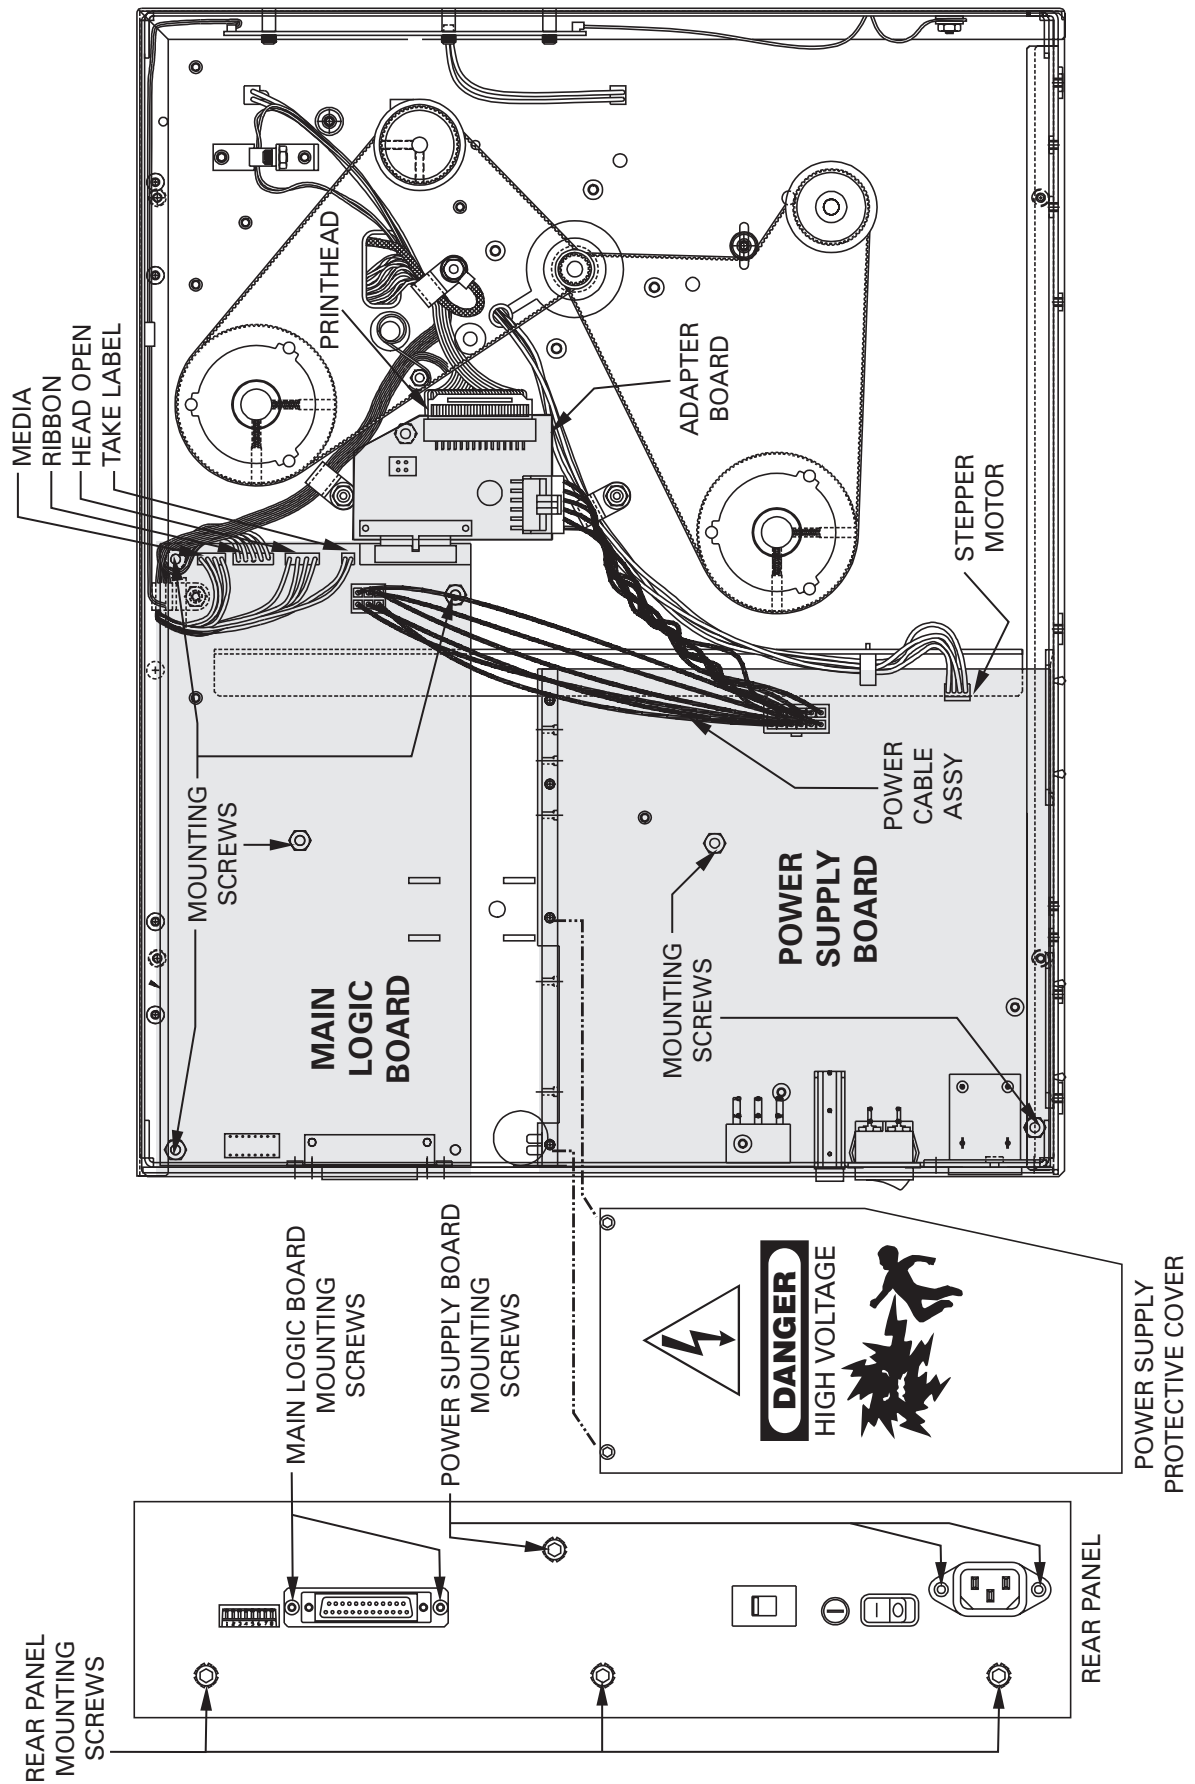

Figure 5.14 105S 12-Dot/105Se Electronics
The Adapter Board may require removal when replacement is necessary. Follow the procedure below, and refer to Figure 5.14 to remove the Adapter Board.
3. Refer to Figures 5.14, 5.15 and 5.16. Unplug all Ribbon Cable Connectors, Small Wire Connectors, and the Adaptor Board (if equipped) from the Main Logic Board and the Power Supply Board.